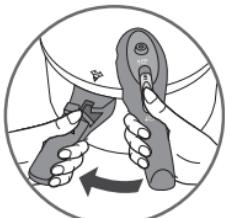

Fig 3
- Place the lid down flat on the pressure cooker taking care to line up the triangles on the lid and the pressure cooker handle - Fig 3
- Turn the lid to the left until it stops - Fig 3